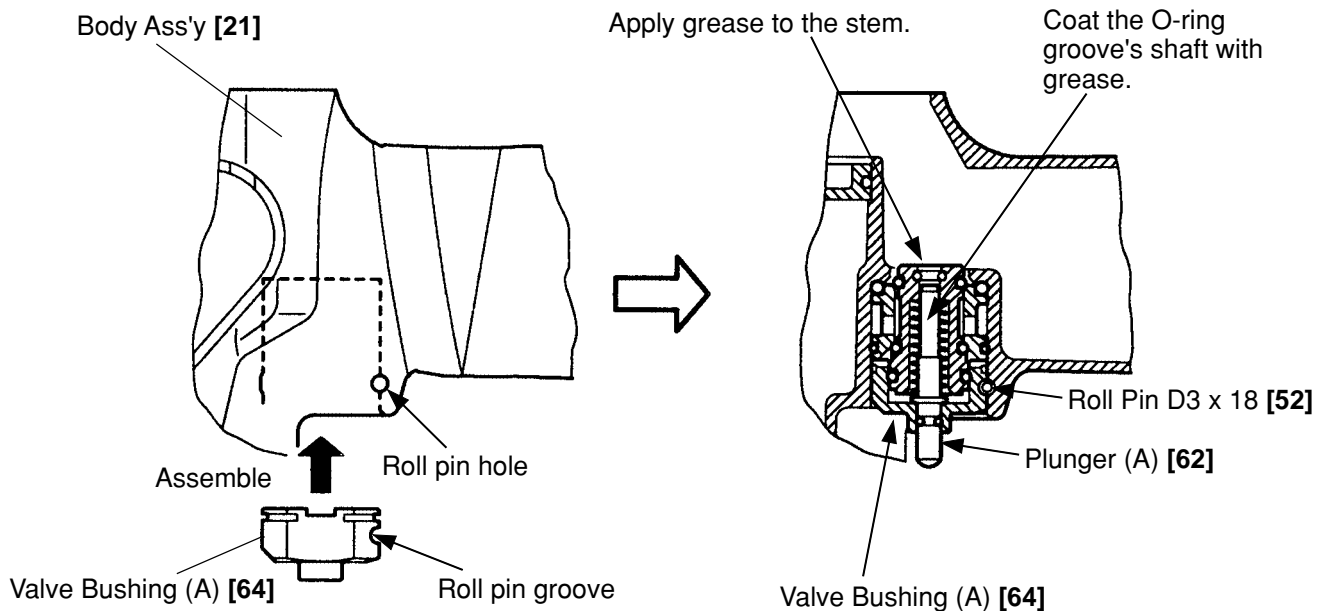

Fig. 16
- Thoroughly apply grease to the O-Ring (I.D 1.8) [63] on Plunger (A) [62], O-Rings (S-4) [58], (I.D 8.8) [57] and (I.D 11) [60] on Valve Piston (B) [59], and the shaft of Plunger (A) [62] as shown in Fig. 16.
- As shown in Fig. 16, install Valve Bushing (A) [64] so that the roll pin groove in Valve Bushing (A) [64] will be aligned with the roll pin hole in the Body Ass'y [21]. First, insert a roll pin puller (3 mm (0.118 ") dia.) into the roll pin hole. Then, upon confirming that the puller passes through the hole, drive in the Roll Pin D3 x 18 [52].